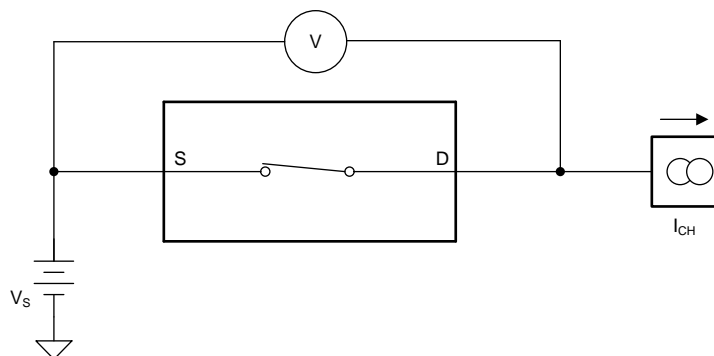

Figure 26. On-Resistance Measurement Setup
(1) X denotes *don't care*.
The on-resistance of the MUX50x is the ohmic resistance across the source (Sx, SxA, or SxB) and drain (D, DA, or DB) pins of the device. The on-resistance varies with input voltage and supply voltage. The symbol R_{ON} is used to denote on-resistance. The measurement setup used to measure R_{ON} is shown in Figure 26. Voltage (V) and current (I_{CH}) are measured using this setup, and R_{ON} is computed as shown in Equation 1: